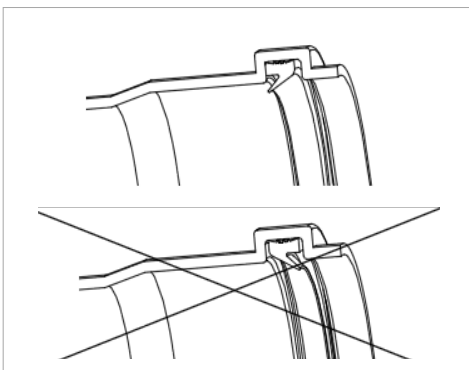

Fig 35. Seal Direction
- Confirm seal is installed in the appropriate direction (Fig 35).